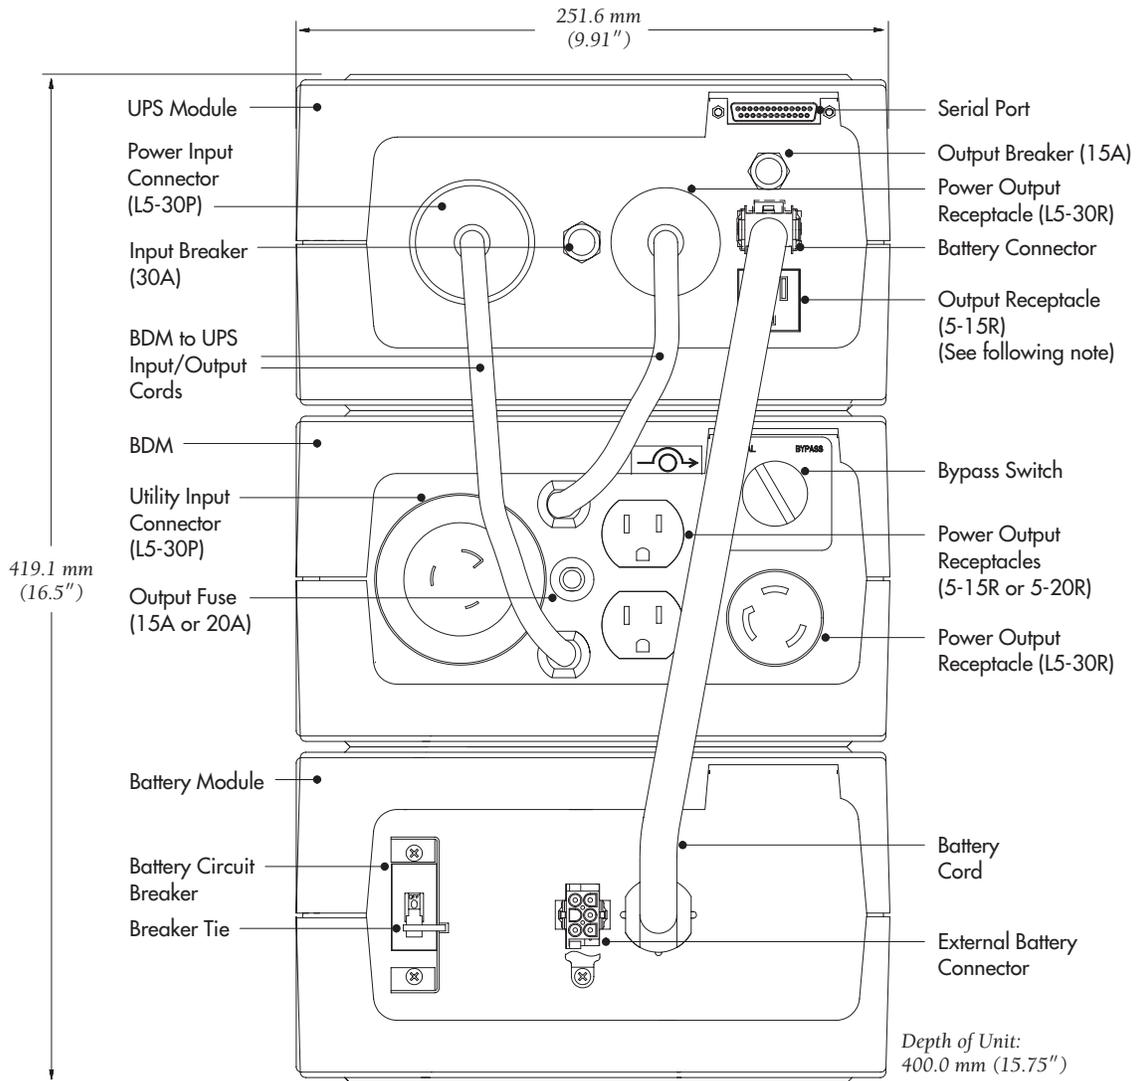

Figure 4. UPS with Plug/Receptacle BDM Rear Panel
Whenever the units are not energized, make sure the circuit breaker on all battery modules is returned to the OFF (O) position (see Figure 4 on page 26).
- 6** Make sure the circuit breaker on all battery modules is in the OFF (O) position (see Figure 4).
- 8 Plug the input and output cords of the BDM into the input and output power connectors on the UPS rear panel as shown in Figure 4.
- 2** Turn the Bypass switch on the BDM rear panel to the NORMAL position (see Figure 4 on page 26).